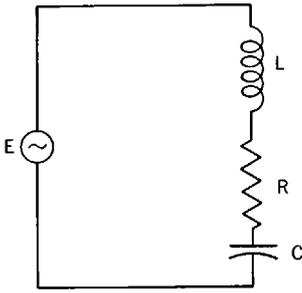

Fig. 35-13. The series resonant circuit showing inductance, capacitance, and resistance in series.
**Series Resonant Circuits.** We may picture our resonant circuit very simply as in Figure 35-13. Here the inductor, the resistance of the inductor, and the capacitor are pictured as being in series with the electrical source. We call such a circuit a *series resonant circuit*.